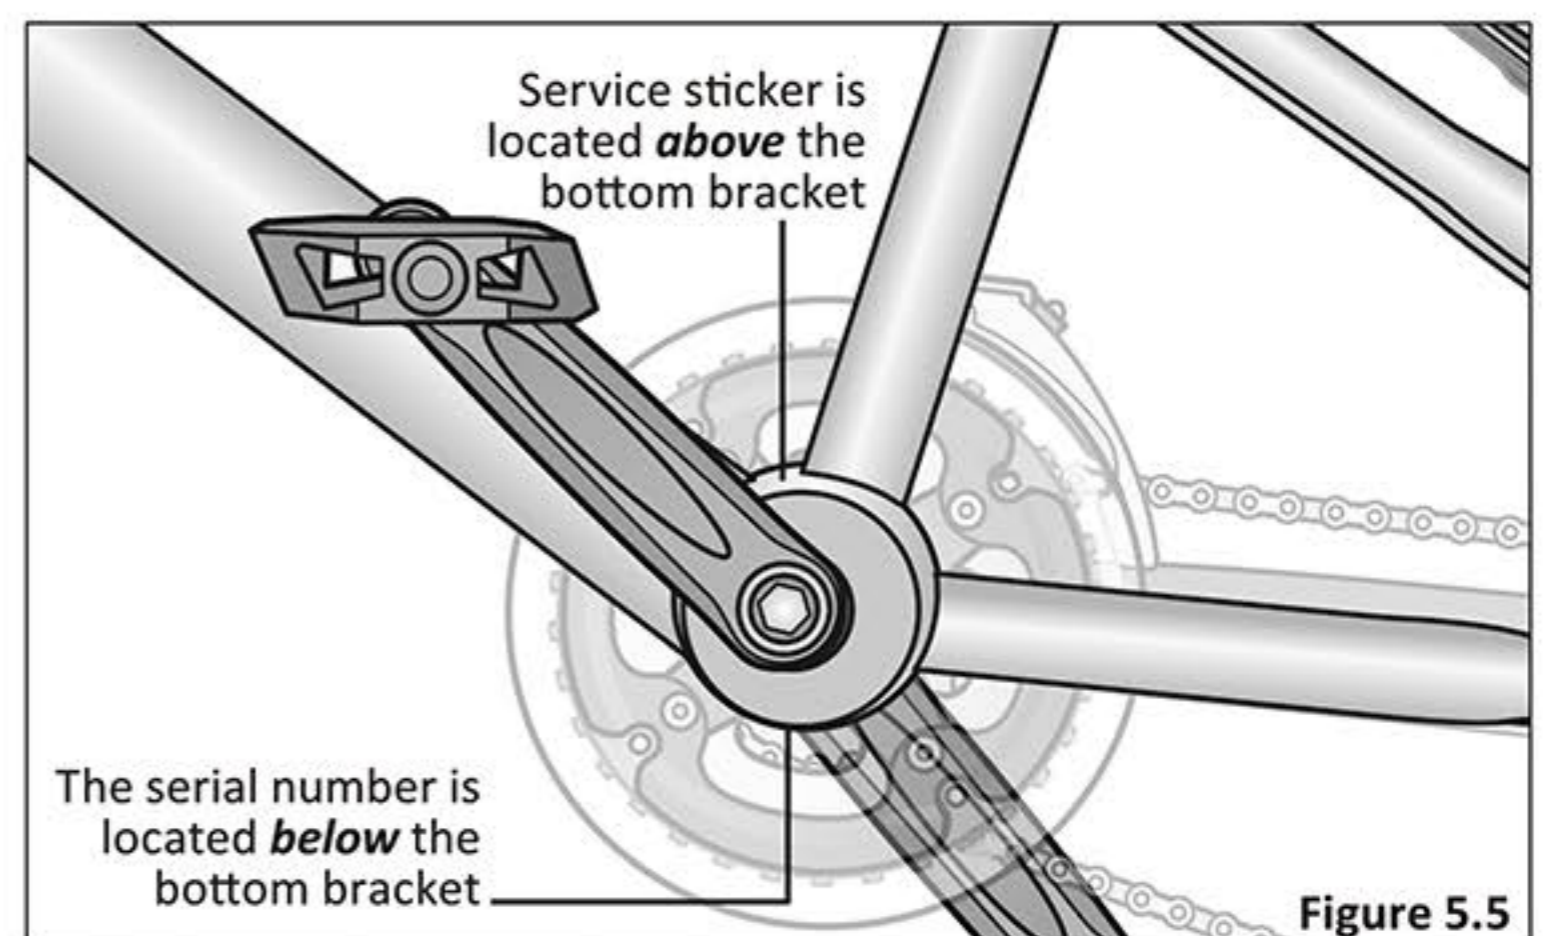

Figure 5.5
- Maintain a record of the bicycle's serial number, generally located on the frame underneath the bottom bracket. **Figure 5.5**